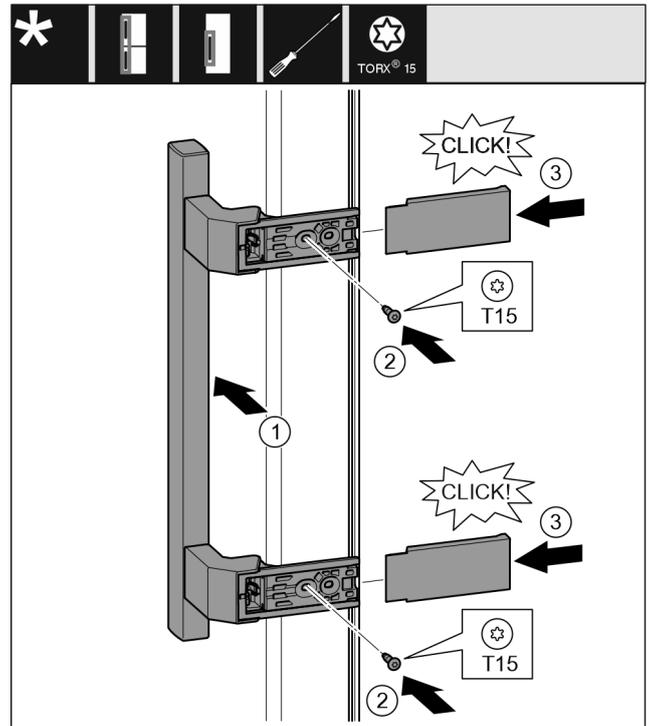

Fig. 18
- ▶ Attach the handle on the opposite side. Fig. 18 (1)
- ▶ Tighten screws with screwdriver T15. Fig. 18 (2)
- ▶ Place the covers on the side and push them on. Fig. 18 (3)